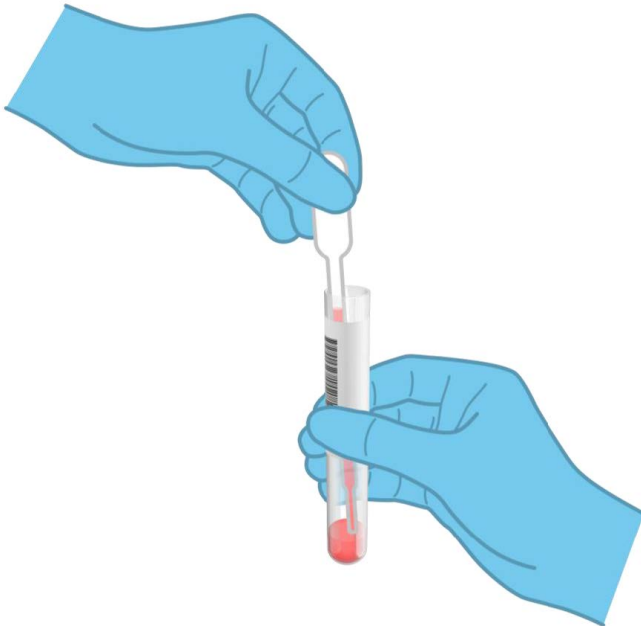

Figure 20. Drawing up sample into the supplied transfer pipette.
5. Open the tube with the sample to be tested. Use the supplied transfer pipette to draw up fluid to the third fill line on the pipette (i.e., 300 μ l) (Figure 20).